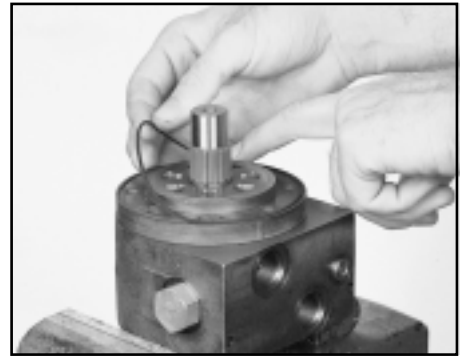

Figure A16
19. Install a o-ring into the groove in the commutator plate (7) then place the check balls (8) on their seats on the commutator plate. Assembly grease can be used to hold the check balls in place during assembly. SEE FIGURE A16